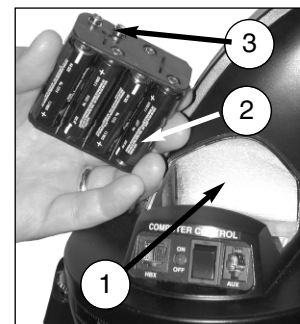

Fig. 11: Insert eight AA-size batteries inside the battery compartment:
12. **Insert batteries:** The telescope's battery compartment (1, Fig. 11) is located on top of the drive base. Open the battery compartment by lifting the cover and pulling it away from the drive base.